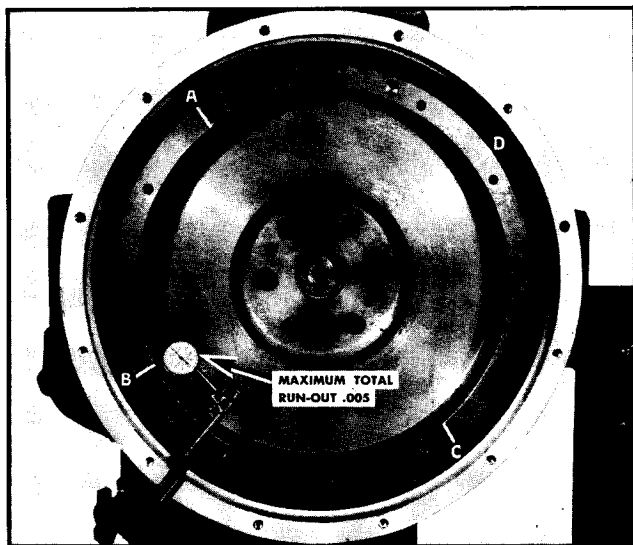

Fig. 12-62. Indicating flywheel face
1. Shift the gauge to indicate the face of the flywheel. Mark with chalk four spots equidistant on the circumference of the flywheel. Fig. 12-62.